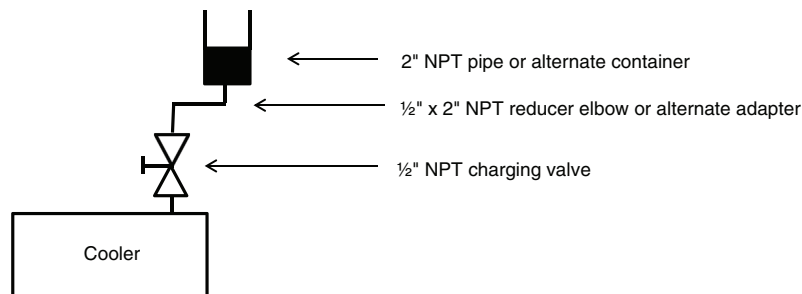
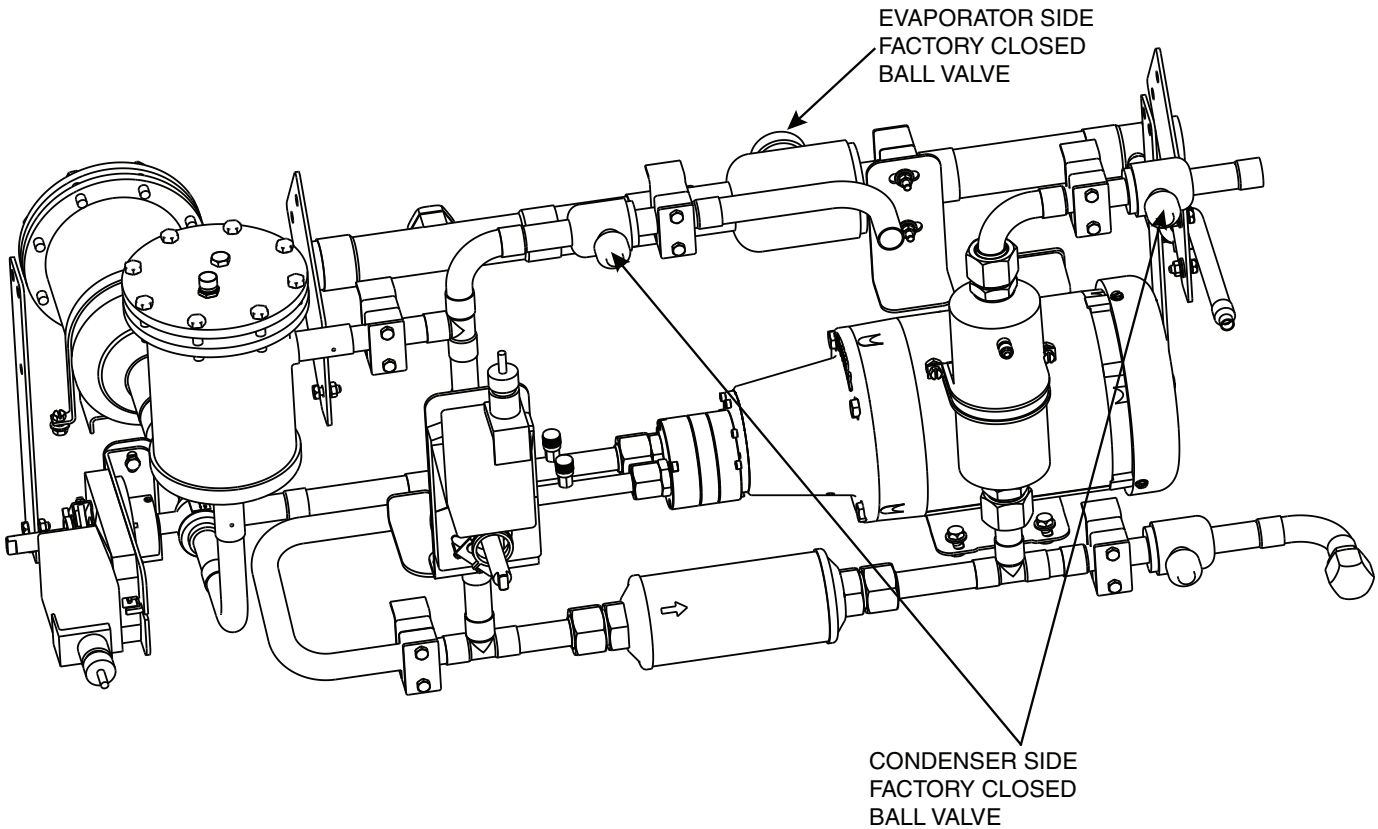

Fig. 19 — Inhibitor Addition
Fig. 20 — Factory Inhibitor Charge Isolation
Inhibitor Charge — The inhibitor charge is included with the 19DV unit supplied by the factory. See Fig. 19 for field inhibitor addition assuming compressor running and negative cooler pressure. The factory pulls a vacuum then closes the three (3) ball valves on the lubrication assembly as shown in Fig. 20. An inhibitor charge is then injected using one of the off-center Schrader valves on the cover of the strainer assembly. A yellow tag is located at each ball valve indicating NOT to open the valves until the unit has been charged with refrigerant to avoid inadvertently pulling the inhibitor out of the refrigerant system. A dose of Carrier inhibitor is supplied in the lubrication assembly by the factory. An additional dose is to be added in the field as part of chiller commissioning.
3. After refrigerant has been added and the inhibitor factory charge has been allowed to mix with the refrigerant add the factory-supplied inhibitor through the evaporator refrigerant charging valve. The evaporator will be in a vacuum when unit is running so the inhibitor charge will be sucked in. See Fig. 19.